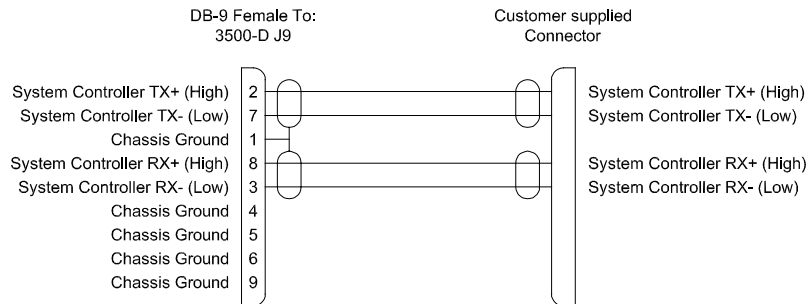

Figure 29. 3500-D RS-422 CPU Link Cable
- COM 4 is an RS-422 CPU Link similar to the RS-232 CPU Link, except the cable may be up to 4000 feet in length and an RS-422 interface card must be installed in the expansion bus. COM 4 may be used with any of the protocols shown in Table 9 on page 23. If necessary, a cable may be fabricated in the field as shown in Figure 29.